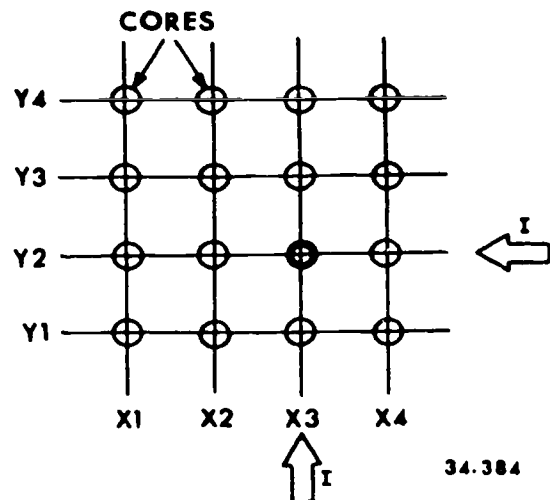

Figure 3-7. Core plane array.
Coincident Current in Core Plane Array. Coincident current core switching is used with an arrangement of wires and cores called a core plane array, similar to that shown in figure 3-7. This 4×4 array is made by crossing long lengths of insulated wires so that they form a squared-grid arrangement with 16 cores in a square pattern of 4 cores on each side of the array. The cores are placed at the junctions of the grid wires so that they encircle the resultant magnetic-intensity vector. These junctions can be thought of in terms of Cartesian coordinates; the horizontal locations assigned an "X" designator and the vertical a "Y" designator.
2. Refer to text figure 3-7. What is required to produce a 1 in the core at the intersection of Y3 and X2?